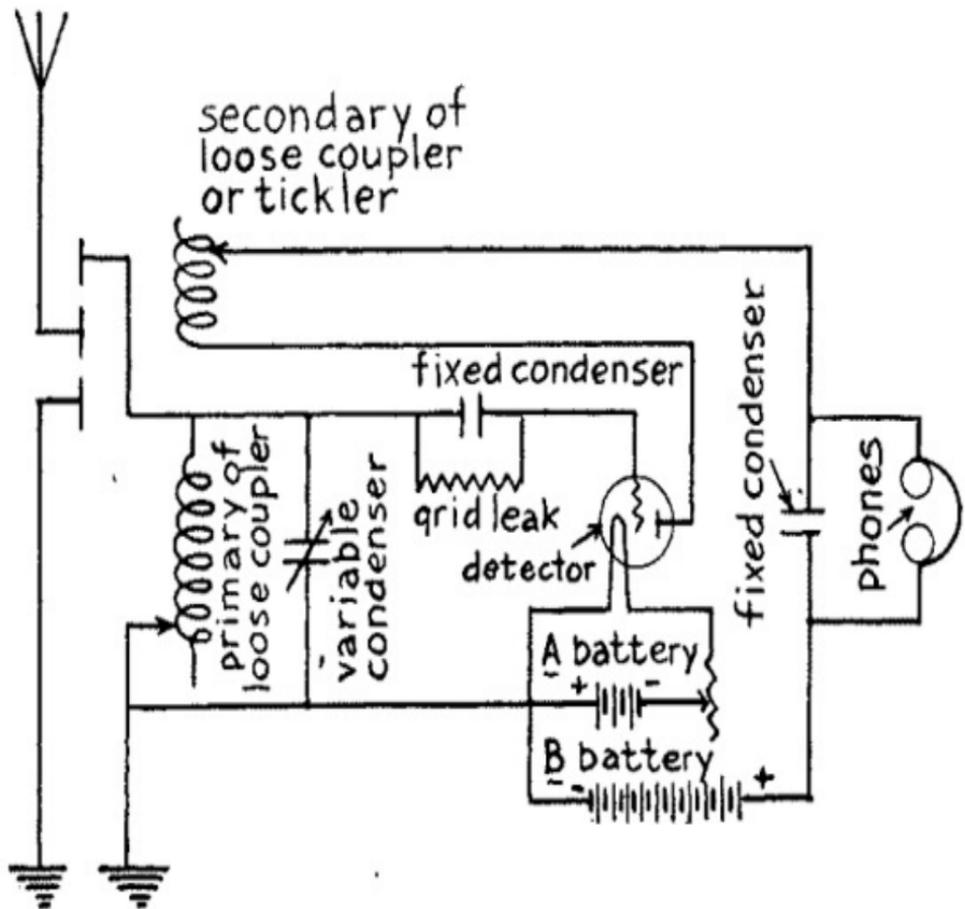

FIG. 48.—Simple Regenerative Receiving Set. (With Loose Coupler Tuner.)
*Connecting Up the Parts.*--Begin by connecting the leading-in wire of the aerial with the binding post end of the primary coil of the loose coupler as shown in the wiring diagram *Fig. 48* and then connect the sliding contact with the water pipe or other ground. Connect the binding post end of the primary coil with one post of the variable condenser, connect the other post of this with one of the posts of the *.00025 mfd.* condenser and the other end of this with the grid of the detector tube; then around this condenser shunt the grid leak resistance.